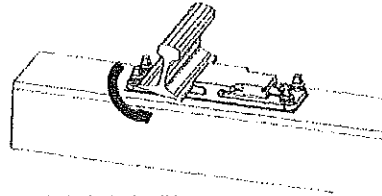

Fig. 25-Swivel stock rail into place
2. Swivel stock rail into place, Fig. 25. Ensure that the stock rail is in its proper position. The iFast spring is normally pre-installed in its parking position.